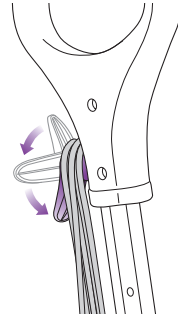

fig. 5
- 3 Pull and twist the quick release cord holder to unwrap the power cord completely. Plug into an electrical outlet. **(fig. 5)**